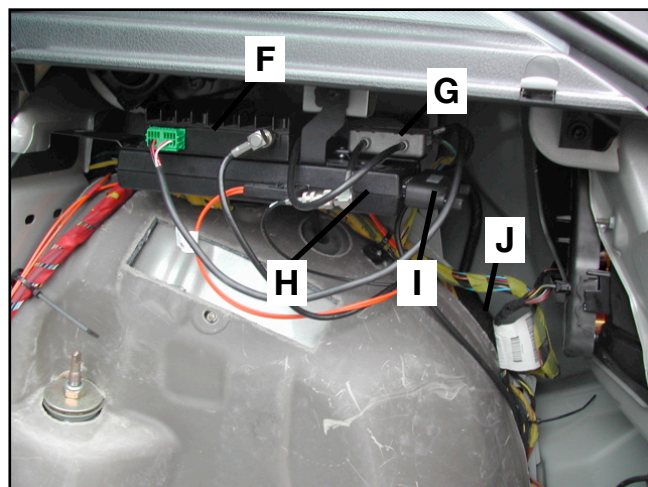

Figure 4
1. Familiarize yourself with the components shown in Figure 4:
- Linear Compensator (F)
- Antenna Switch (G)
- PSE (H)
- Y-Cable (I)
2. Reach behind the wheel well support and feel for the DB-25 connector that connects the Y-Cable to the cars harness, it is wrapped in fabric tape and adhered to the back of the well (J, Figure 4).